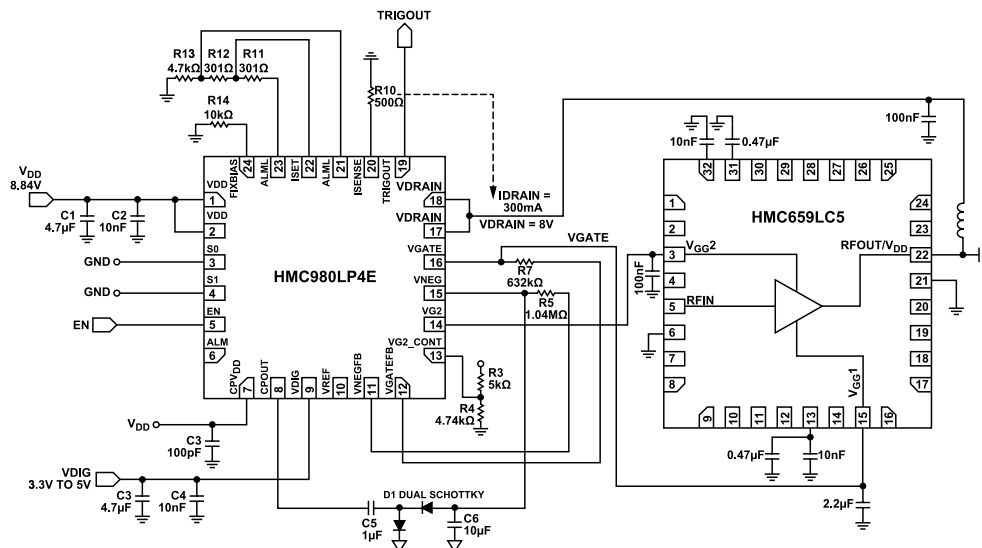

Figure 27. Application Circuit for Biasing the HMC659LC5 with the HMC980LP4E
- ▶ The shunt V_{GGX} capacitors value can be reduced to increase the rise time (see HMC659LC5 in Figure 27). Refer to the Reducing the Rise Time of the VGATE Voltage section for further details.